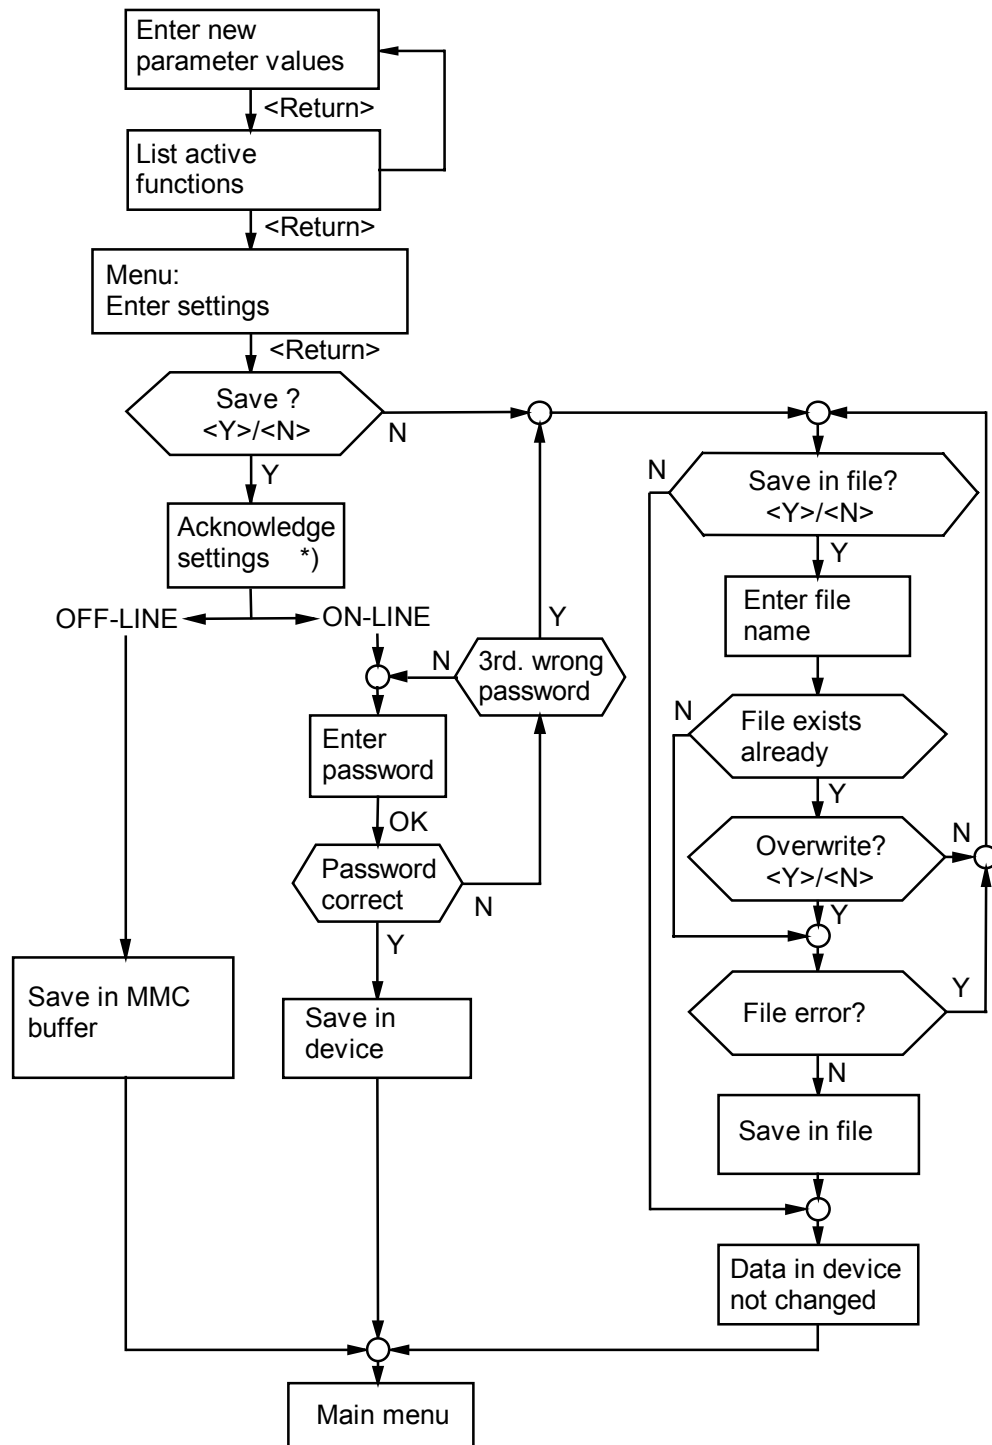

Fig. 5.28 Flow chart for saving the contents of the editor
The contents of the editor is downloaded to the device by repeatedly selecting the "RETURN" line in the editor window. The procedure can be seen from Fig. 5.28.
- repeatedly selecting "RETURN" as illustrated in Fig. 5.28.